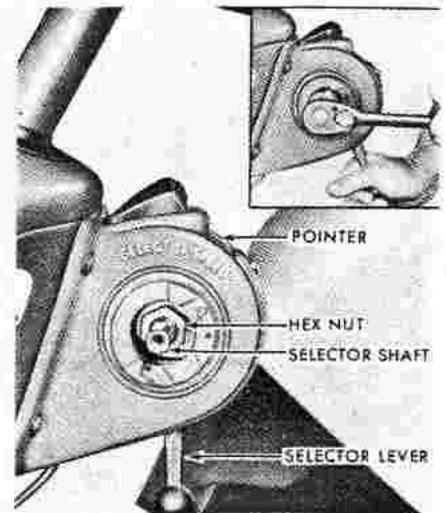

Fig. 235—View showing left end cover removed from gear selector assembly. Inset shows hex nut being loosened to adjust dial pointer.
Remove the selector shaft end cover from left side of selector unit to expose the shaft and hex nut as shown in Fig. 235. Note: If control lever is mounted on left end of shaft, remove lever and reinstall it on right end of shaft while making adjustment; refer to paragraph 238. Move the selector lever to Neutral (N) position and hold lever firmly in detent notch while loosening hex nut with a deep well socket. The dial can now be moved in either direction to align Neutral (N) identification on dial with pointer. Hold lever to detent and tighten hex nut to torque of 25-35 Ft.-Lbs. Recheck dial alignment; if correct